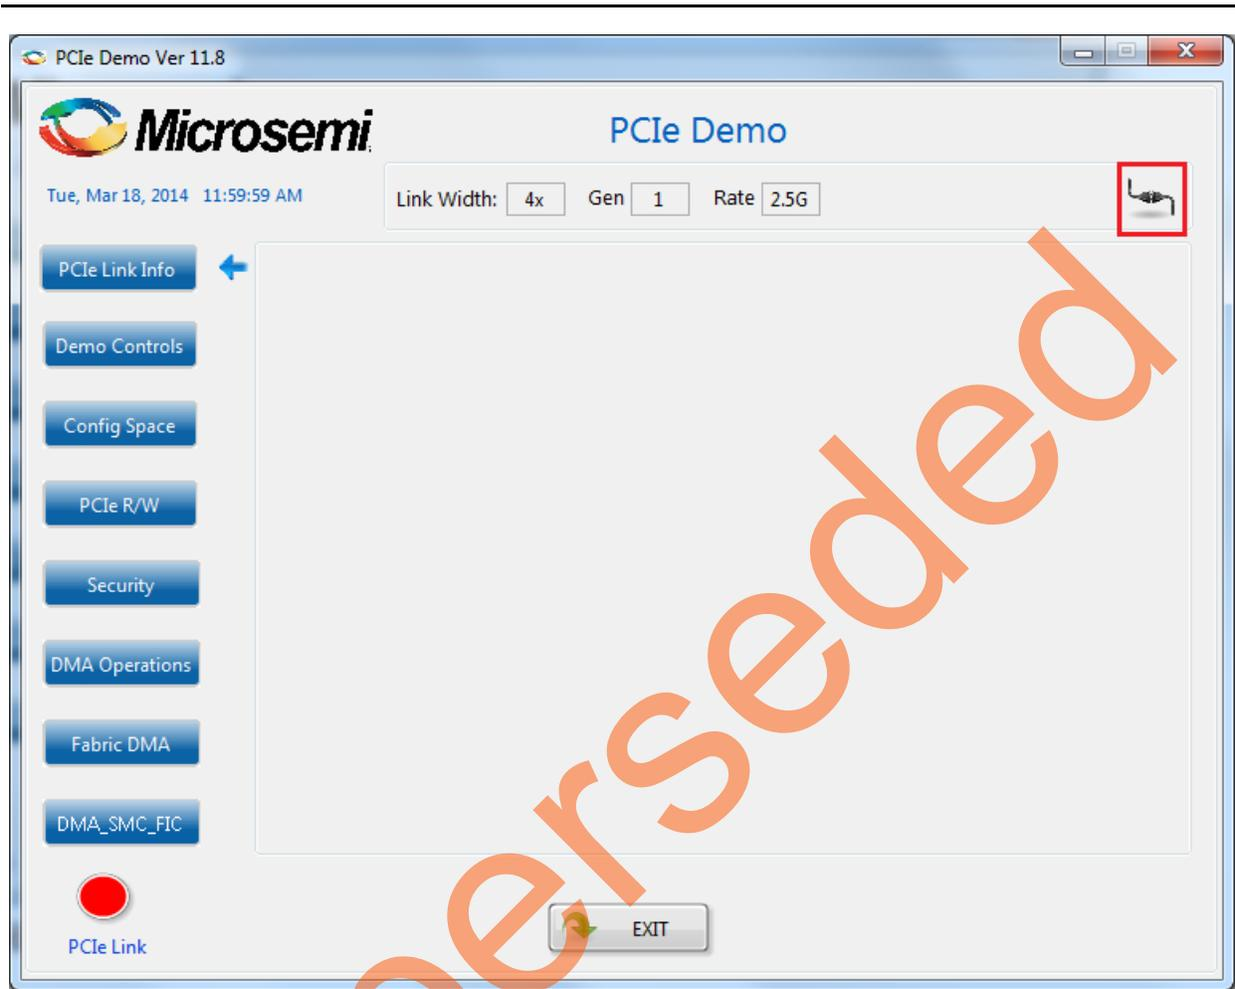

Figure 60 • PCIe Demo GUI
2. Invoke the GUI from **ALL Programs > PCIe Demo > PCIe Demo GUI**. The GUI is displayed as shown in Figure 60.